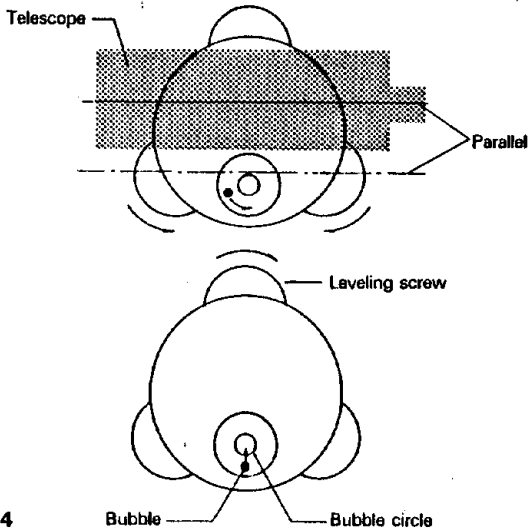

Fig.4
Telescope Leveling screw Bubble Setting circle (A) (B) Fig. 4 Circular level